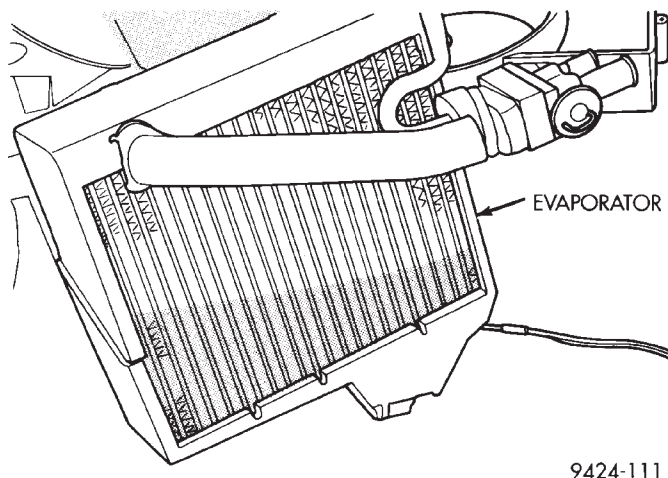

**Fig. 43 Evaporator**
- (7) Lift evaporator out of lower housing (Fig. 43).
- (8) Transfer evaporator probe. Place the evaporator probe in the same location as on the previous evaporator.